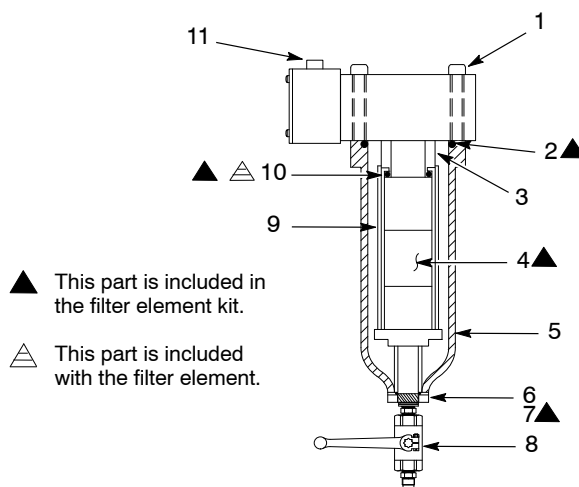

Figure 2 Filter Components
1. See Figure 2. Close the material supply ball valves on either side of the filter, coming from the unloaders to the filter stand.
2. Disconnect the cable from the cable connector (11).
3. Place a five-gallon bucket under the filter bleed valve (8). Open the filter bleed valve to relieve material pressure. Close the filter bleed valve when material no longer bleeds out under pressure.
4. Remove the fitting (6) from the filter bowl. Remove the O-ring (7) from the fitting. Discard the O-ring.
5. Support the filter bowl (5). Using a 1/2-in. hex wrench, remove the four cap screws (1). Remove the filter bowl and filter bowl O-ring (2). Discard the O-ring.
6. Remove the filter element (4). Clean the filter bowl and filter head (9).
1. See Figure 2. Install new filter element (4) on the bottom of the filter head (9).
2. Install a new O-ring (2) onto the filter bowl (5). Support the filter bowl (5) in place at the bottom of the filter head (9). Install the four socket head cap screws (1) and tighten to 325 N•m (240 ft-lb).
3. Install a new O-ring (7) onto the fitting (6). Install the fitting into the filter bowl (5) and tighten securely.
5. Connect the cable to the cable connector (11).
See Figure 2. Item 10 is included with the filter element (item 4) and each kit.